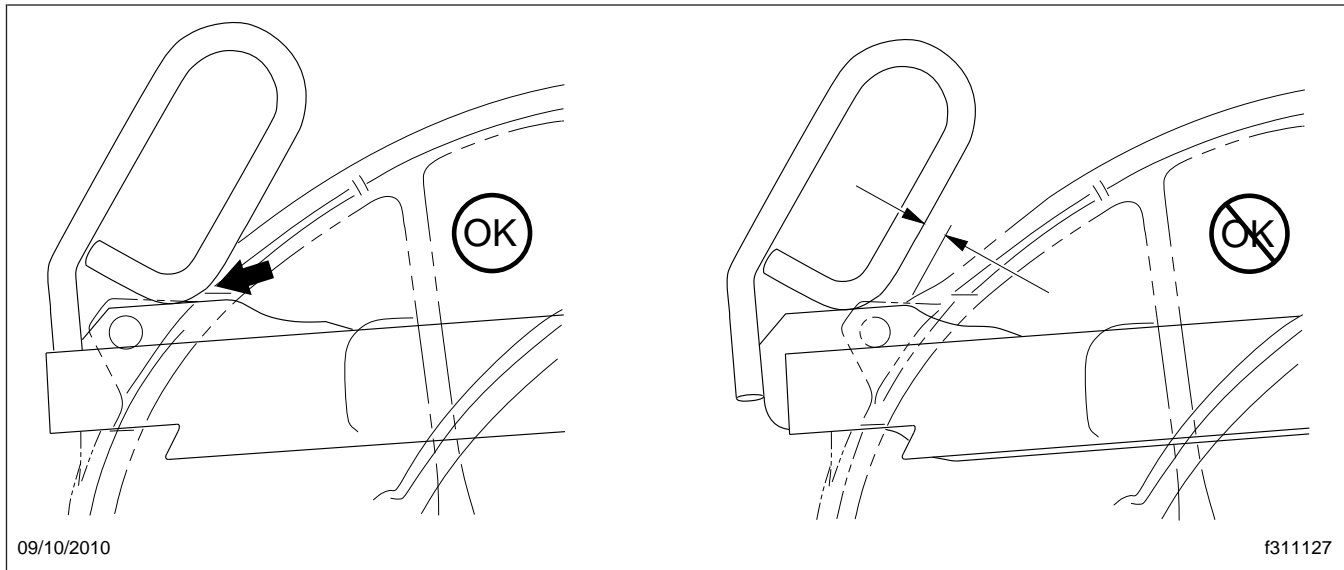

Fig. 17.8, Jost Release Handle Locked
12. Ensure that the release handle is in the locked position adjacent to the casting. See Fig. 17.8.